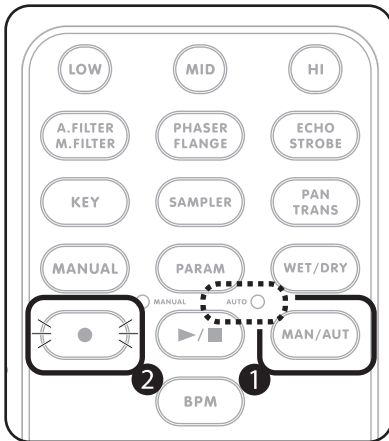

Figure 4.22
Before to make a BPM synchronized automation make sure the M.207 is in Auto Recording. Press the MAN/AUT button Figure 4.22 (1) until the red LED above the PLAY/STOP button lights. If it is already red, you can skip this step.